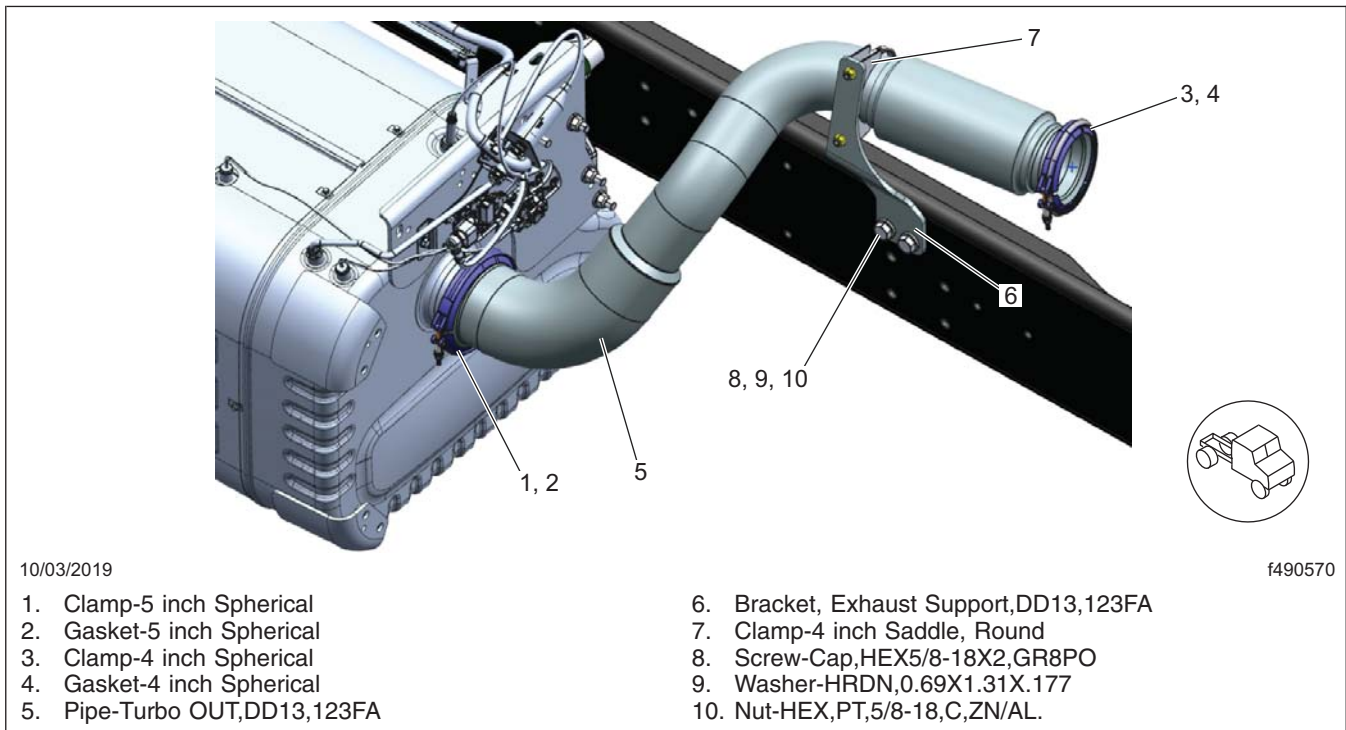

Fig. 4, New Pipe Assembly Installation
11. Loosely install the U-bolt (**Fig. 4**, ref 7) securing the support bracket (**Fig. 4**, ref 6) to the pipe assembly.
21. Install the pipe support bracket (**Fig. 4**, ref 6) on the frame, and secure the fasteners (ref 8, 9, and 10) wrench tight.
22. Fit the U-bolt (**Fig. 4**, ref 7) between the support bracket and pipe assembly.